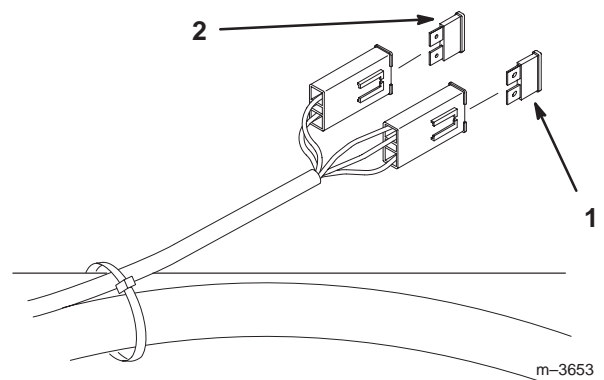

Figure 59
1. Raise the seat to gain access to the fuse holder (Fig. 59).
2. To replace the fuses, pull out on the fuse to remove it (Fig. 59).